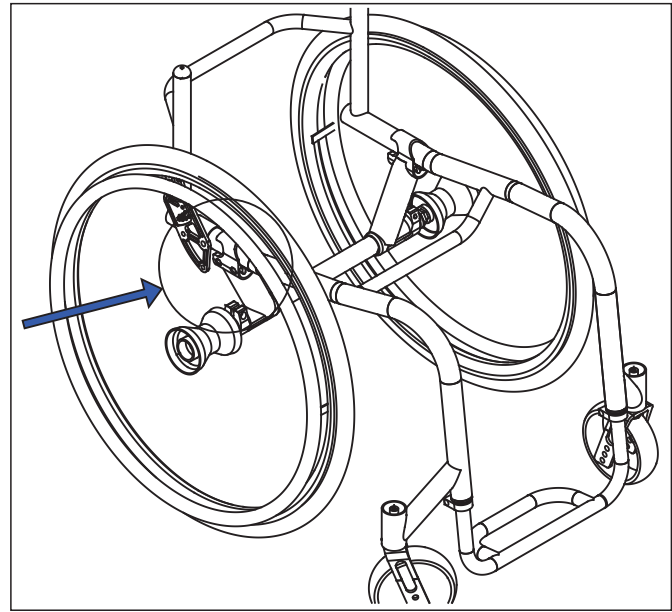
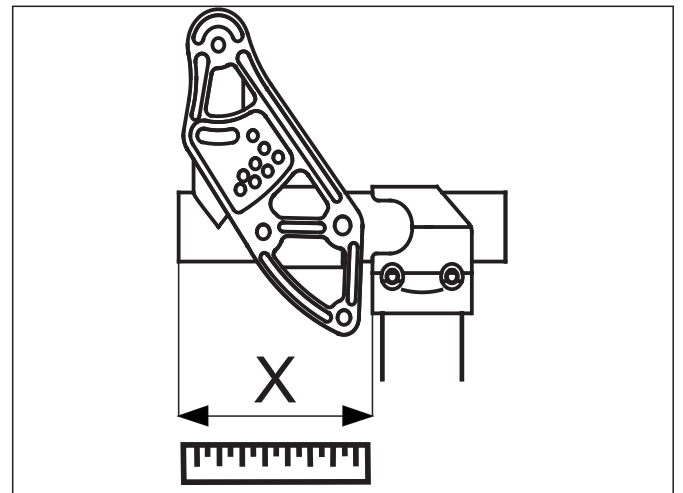

Fig.27. Location of main axis connectors
Fig.29. Clamp to seat frame positioning
a) The rear axle connectors are shown in Figure 27. It is attached to the frame by a clamp. To adjust loosen both screws on the clamp to alter the axle setting. Ensure that adjustments made are replicated on both sides. Following adjustment, measure distance from clamp to the end of the seat frame (see "X" on Figure 29.) Once dimensions are equal on both sides refasten the two screws on the clamp. When adjusting the axle position please note that it affects the stability of the chair. By moving the axle clamp to forward position can result in an unstable condition.